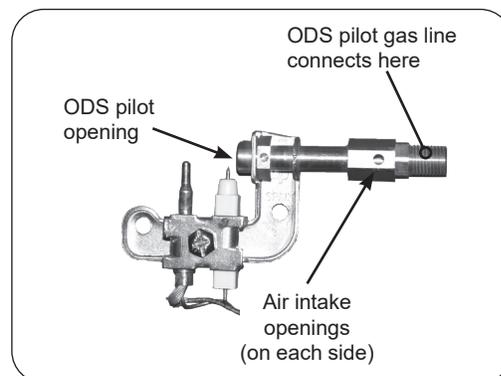

Fig. 31-2 ODS pilot openings
1. Turn the burner system to the **OFF** position and allow it to cool. Inspect the ODS pilot area (see Fig. 31-2) for any visual contamination or debris (usually lint, hair, spider webs, or small insects). Lightly brush off all external surfaces while vacuuming loosened debris from the ODS pilot opening. **Be careful not to brush any foreign material into the ODS pilot opening.**
2. Clean out the air intake openings (see Fig. 31-2) by lightly brushing around the openings while vacuuming.
4. If the ODS pilot flame does not burn as indicated in the instructions, extinguish the ODS pilot by turning the valve to the full **OFF** position. Using a compressed air duster, insert the flexible nozzle through the air intake openings, ensuring that the nozzle is pointed toward the ODS pilot opening (see Fig. 31-2). Blow air through the intake openings to clear out any debris that may be in the system.
5. Relight the ODS pilot and inspect it to be sure it is burning as shown in the instructions. If not, extinguish the ODS pilot and **turn off the gas supply to the burner system.** Using an adjustable or a 1/4" wrench, disconnect the ODS pilot gas line (see Fig. 31-2) from the valve.